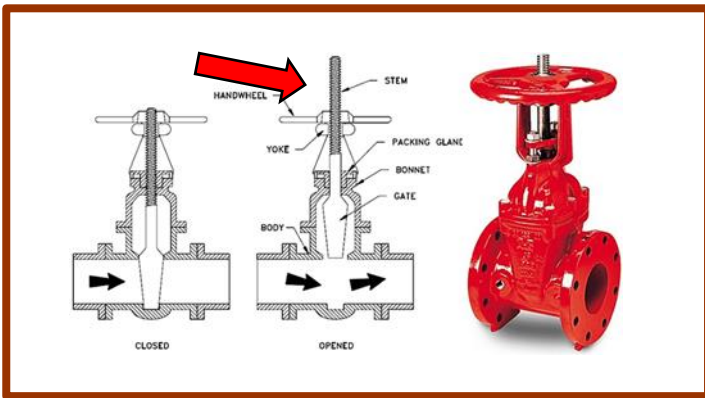
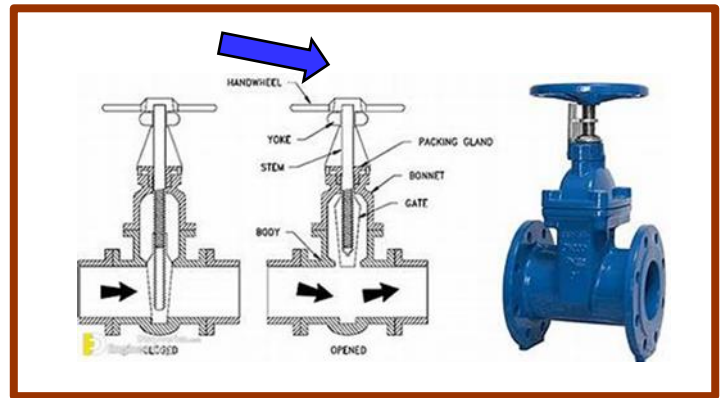

Figure 1: Rising Stem valves
Figure 2: Fixed Stem valves
The tank farm used both rising stem (Fig. 1) and fixed stem valves (Fig. 2.) on the dike drains leading to the storm water retention pond in the WWT area. Rising stem valves allowed operators to easily see the valve position by observing the stem above the valve wheel (red arrow). Fixed stem valves do not provide a visual indication of the position (blue arrow): The stem does not rise above the handwheel when the gate is raised. It was difficult for operators to know the actual position of the fixed stem valve on the dike drain for the tank dike without physically turning it.
- There are two styles of gate valves that look similar. (Figures 1 and 2) .